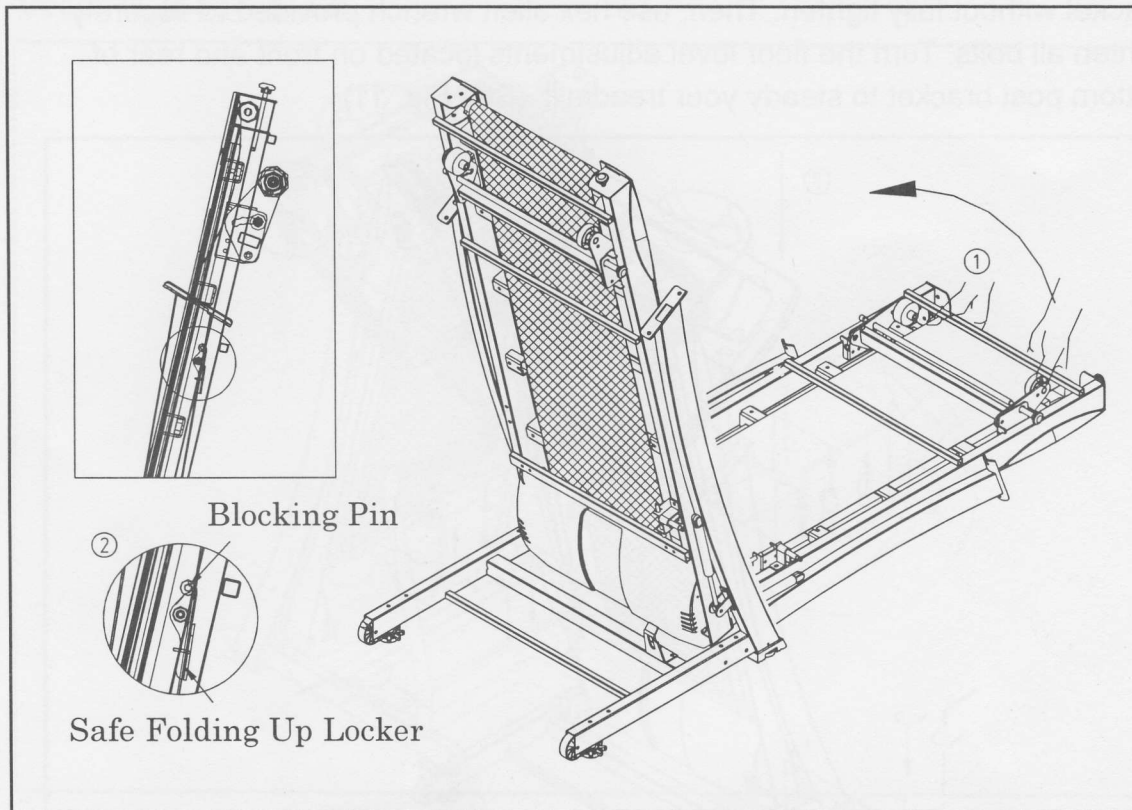

Fig.9
3. Remove treadmill from styrofoam, and place on a flat surface. Make sure blocking pin is securely attached to safe folding up locker. (See Fig. 9)